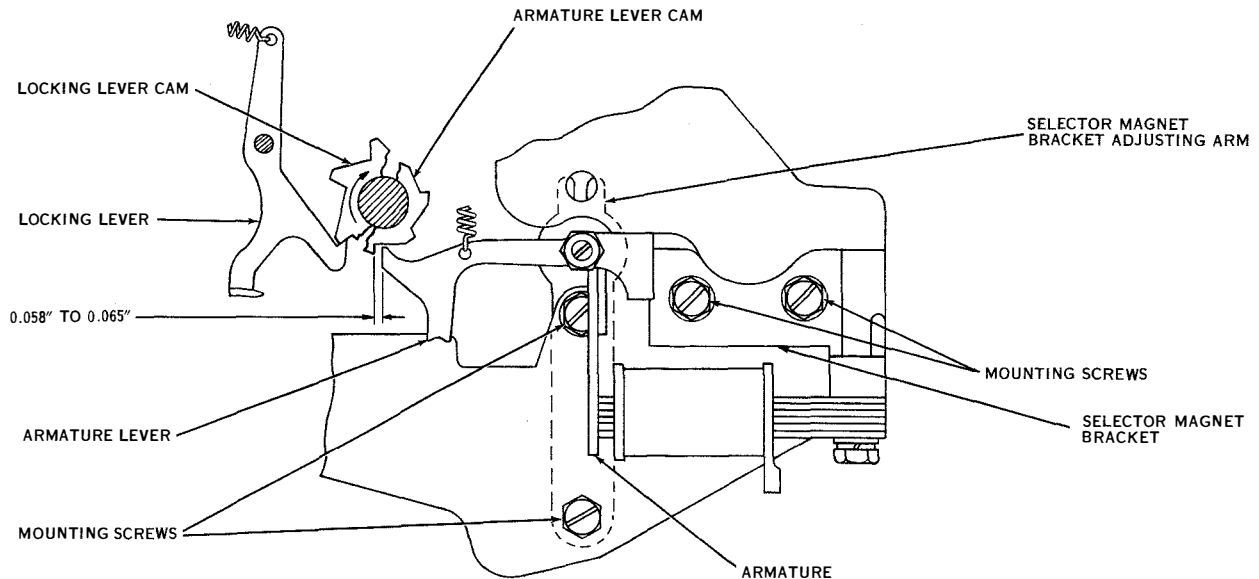

Figure 7-31. Selector Magnet Bracket
(16) SELECTOR MAGNET BRACKET POSITION ADJUSTING ARM. (See figure 7-31).—There should be a clearance of 0.058 to 0.065 inch between the armature lever and the face of the tooth on the armature lever cam. To check, turn the main shaft to its stop position and rotate the selector cam sleeve until the locking lever drops off the high side of its cam. Rotate the cam sleeve backward until the locking lever engages its cam and stops the rotation of the cam sleeve, then check the clearance. To adjust, loosen the selector magnet bracket mounting screws and the selector magnet bracket adjusting arm mounting screws enough to make the bracket and adjusting arm friction tight. Insert the No. 90783 adjusting wrench in the hole above the end of the adjusting arm and position the selector magnet bracket by rotating the wrench. Tighten the bracket and adjusting arm mounting screws.